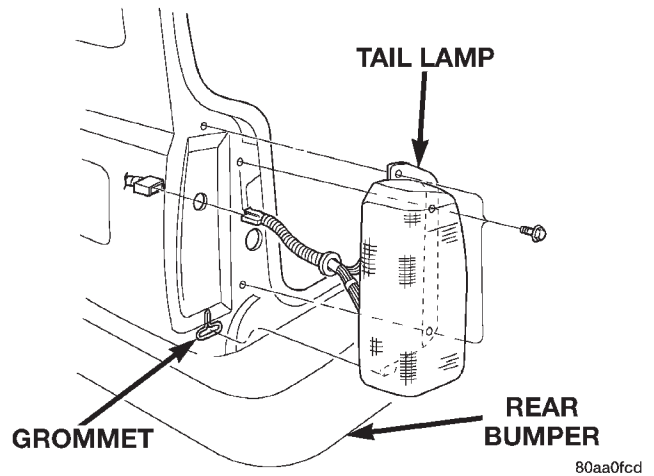

Fig. 5 Tail Lamp
- (1) Open the liftgate.
- (2) Remove the bolts attaching the tail lamp housing to the quarter panel (Fig. 5).
- (3) Grasp the lamp and pull to disengage it from the grommet at the base of the lamp.
- (4) Rotate the bulb sockets one-third turn and remove the bulb sockets from the lamp housing.